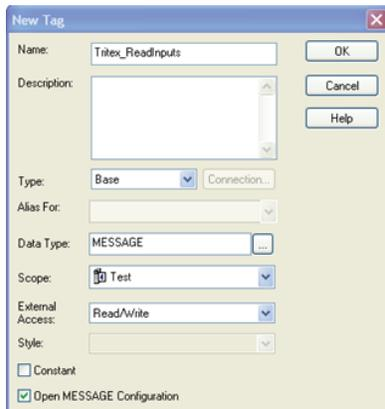

Figure 24 – Get Message New Tag
3. In new Tag menu, assign name to tag, Check Open MESSAGE Configuration box, then click OK. See figure 24.